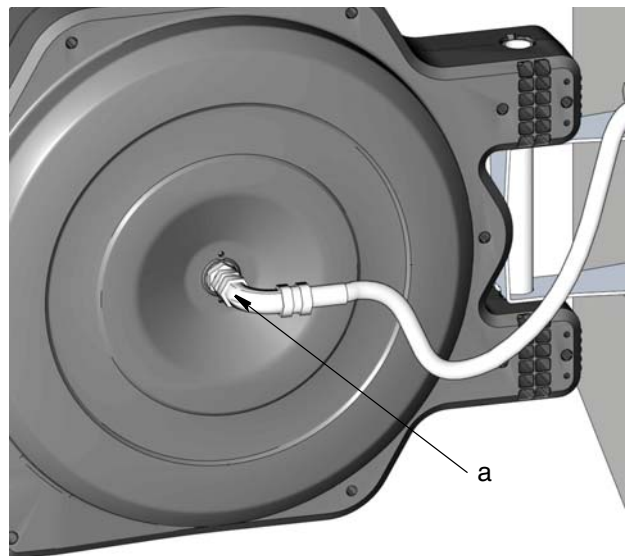

FIG. 6
- 3. Remove inlet hose (a) from swivel (FIG. 6).